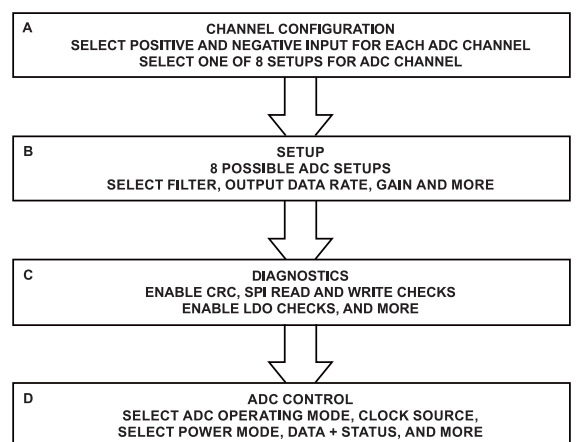

Figure 68. Suggested ADC Configuration Flow
Figure 68 shows an overview of the suggested flow for changing the ADC configuration, divided into the following blocks:
- ▶ Channel configuration (see Box A in Figure 68 )
- ▶ Setup (see Box B in Figure 68 )
- ▶ Diagnostics (see Box C in Figure 68 )
- ▶ ADC control (see Box D in Figure 68 )